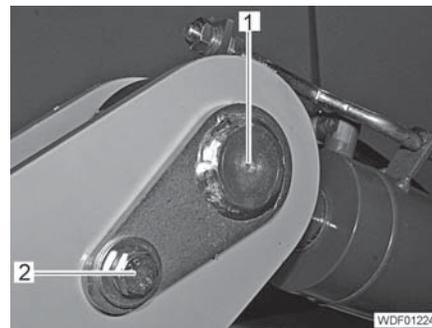

Fig. 197 Rod end attachment
- Unscrew the screw (Fig. 197,2).
- Drive out the pin (Fig. 197,1).